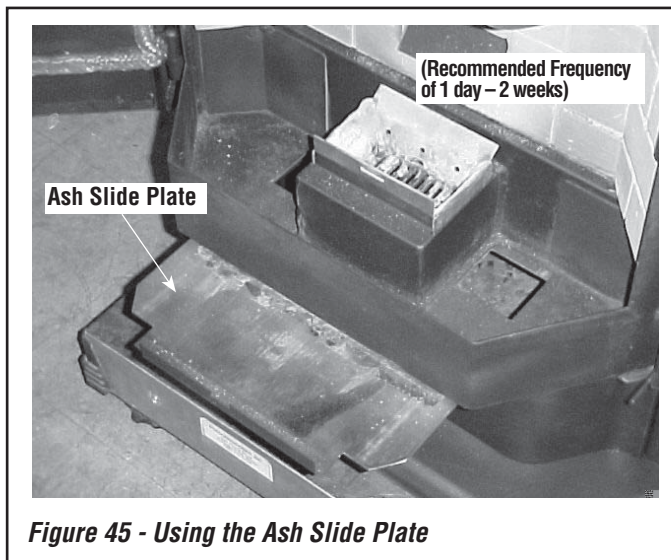

Figure 45 - Using the Ash Slide Plate
Inspect the UltraGrate periodically so that the air holes don't clog with ash or clinkers. The UltraGrate can easily be cleaned with the grate scraper / ash pan tool, or it can be removed for cleaning. It is very important to monitor the ash build up under the UltraGrate, as too much of ash will block combustion air from entering the grate, causing pellets to pile-up in the grate. The ash build-up under the grate is easily dumped into the ash pan by pulling out the ash slide weekly (see *Ash Slide Plate, Figure 45*). The grate cleaning procedure is the same for all models.
2. Using the grate scraper tool, pull open the ash release slide plate (see **Figure 45**).